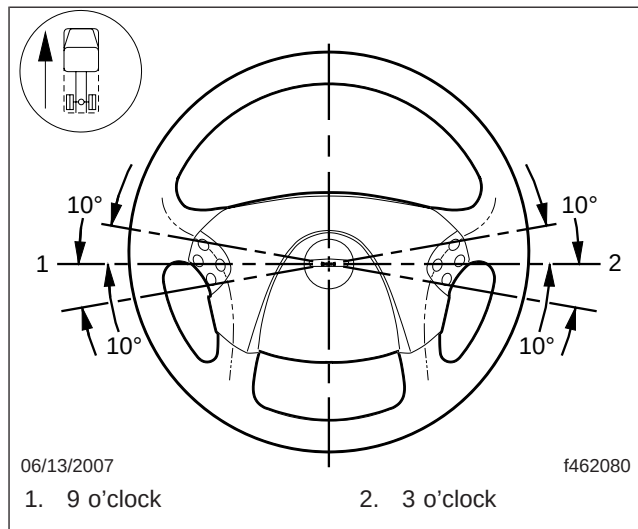

Fig. 3, Steering Wheel Centered
6. Make sure that the steering wheel is within 10 degrees of center as shown in Fig. 3. If not, remove and center the wheel, as follows.